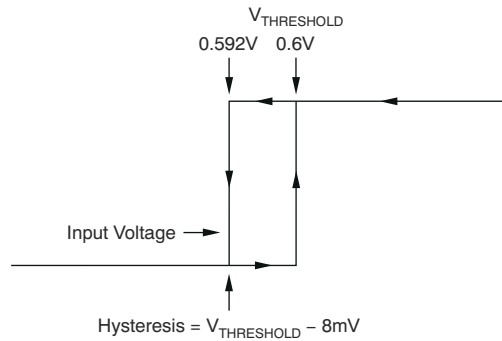

Figure 7-1. Typical Comparator Hysteresis
(1) Hysteresis refers to the threshold (the threshold specification applies to a rising edge of a noninverting input) of a falling edge on the noninverting input of the comparator; see Figure 7-1.
(2) Specified by design.
(3) V_{ID} refers to the differential voltage at the comparator inputs.
(4) Pulling the open-drain output to the range of 2.7 V to 18 V is permissible, regardless of V_S .
(5) The comparator response time specified is the interval between the input step function and the instant when the output crosses 1.4 V.
(6) The RESET input has an internal 2-M Ω (typical) pulldown. Leaving RESET open results in a low state, with transparent comparator operation.
Figure 7-1 shows the typical comparator hysteresis.